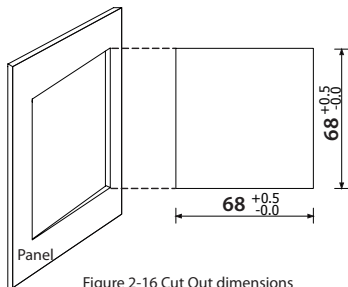

Figure 2-16 Cut Out dimensions
1) Firstly, make a standard panel Cut Out as the Figure 2-16 shows. Unit: mm.